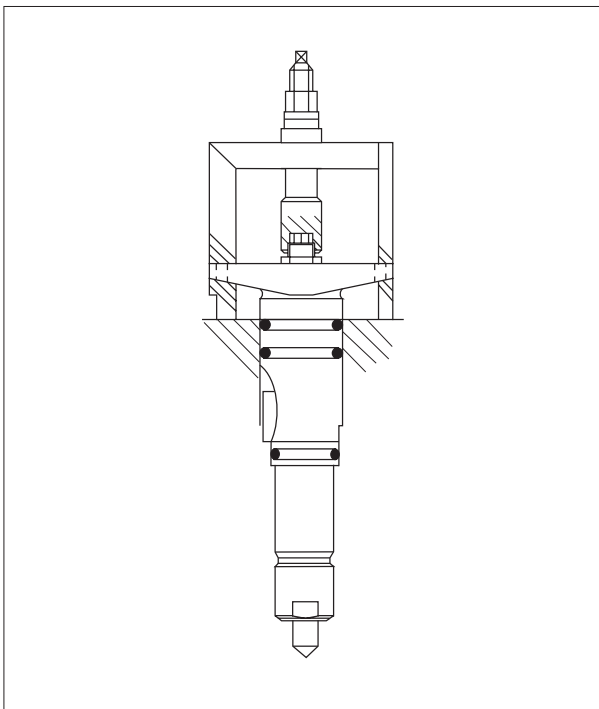

Fig 1 Dismounting of fuel injection valve from cylinder head.
1. Dismount the fuel injection valve from the cylinder head by means of the special tool as shown in fig 1.